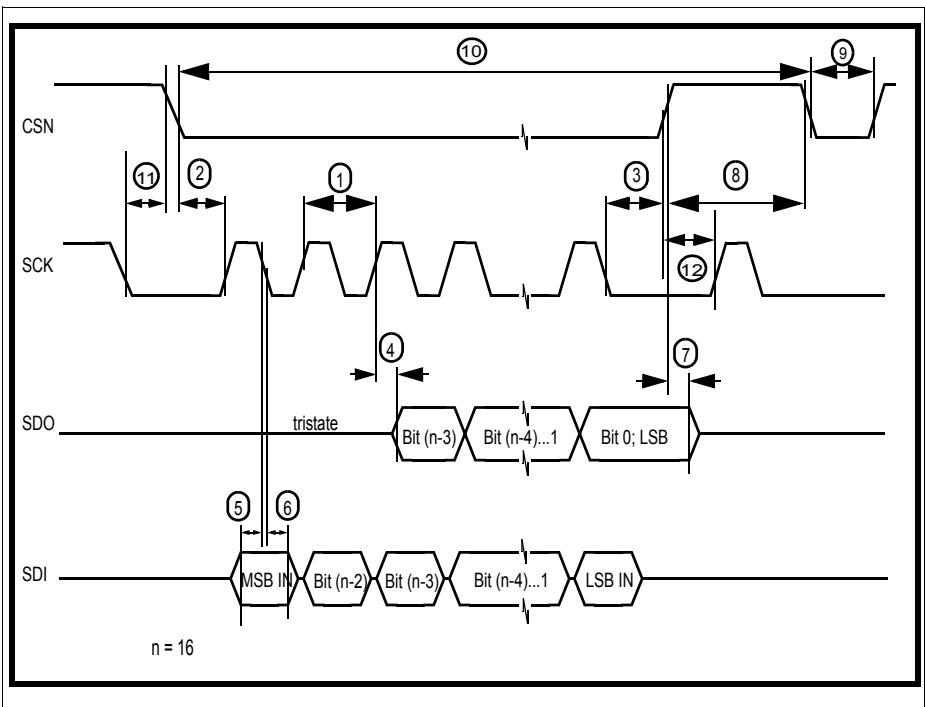

Figure 13 SPI-timing
**SPI Timing (see Figure 13)**
3.4.54	Cycle-Time (1)	$t_{cyc}$ (1)	200	–	–	ns	referred to master